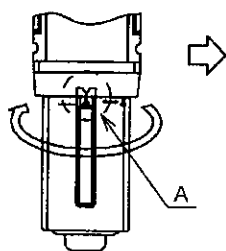

Fig. 1
- (1) When replacing the packing or O-ring, apply fluorine grease (Daikin Industries Demnum L200 or equivalent), and then assemble.
- (2) Bowl and element (assembly) replacement methods VFA1000 Series
- (a) While pressing up the bowl and bowl guard, rotate by approx. 45° until these parts stop. (Fig. 1, 2)
- (e) When establishing a vacuum in the vessel again, confirm that the alignment mark on the bowl guard is aligned with the body mark (Fig. 1 A).